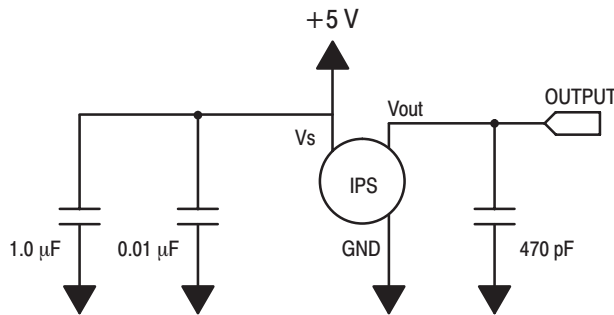
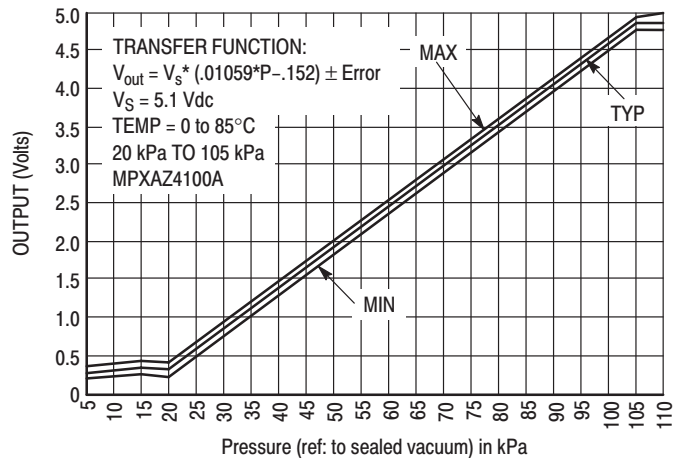

Figure 3. Recommended power supply decoupling and output filtering.
Figure 4. Output versus Absolute Pressure
**OPERATING CHARACTERISTICS** ( $V_S = 5.1$  Vdc,  $T_A = 25^\circ\text{C}$  unless otherwise noted,  $P1 > P2$ . Decoupling circuit shown in Figure 3 required to meet electrical specifications.)
Figure 4 shows the sensor output signal relative to pressure input. Typical, minimum, and maximum output curves are shown for operation over a temperature range of 0° to 85°C using the decoupling circuit shown in Figure 3. The output will saturate outside of the specified pressure range.
Figure 3 shows the recommended decoupling circuit for interfacing the output of the integrated sensor to the A/D input of a microprocessor or microcontroller. Proper decoupling of the power supply is recommended.